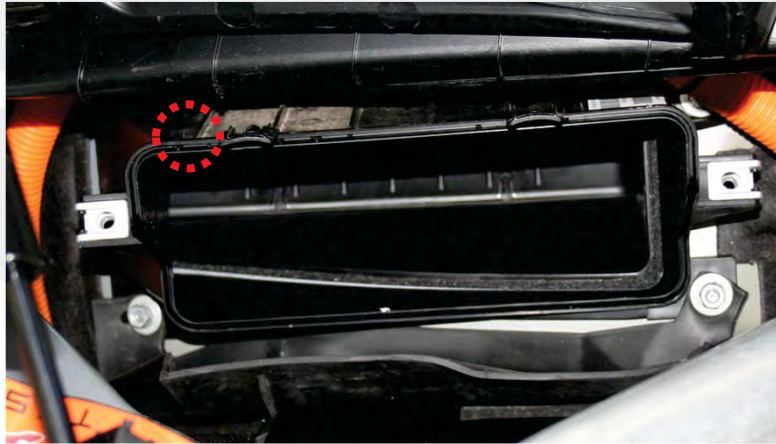

Figure 1
- b. Loosen the top RH nut that secures the pollen filter rear housing to the bulkhead (torque 6 Nm) (Figure 1).